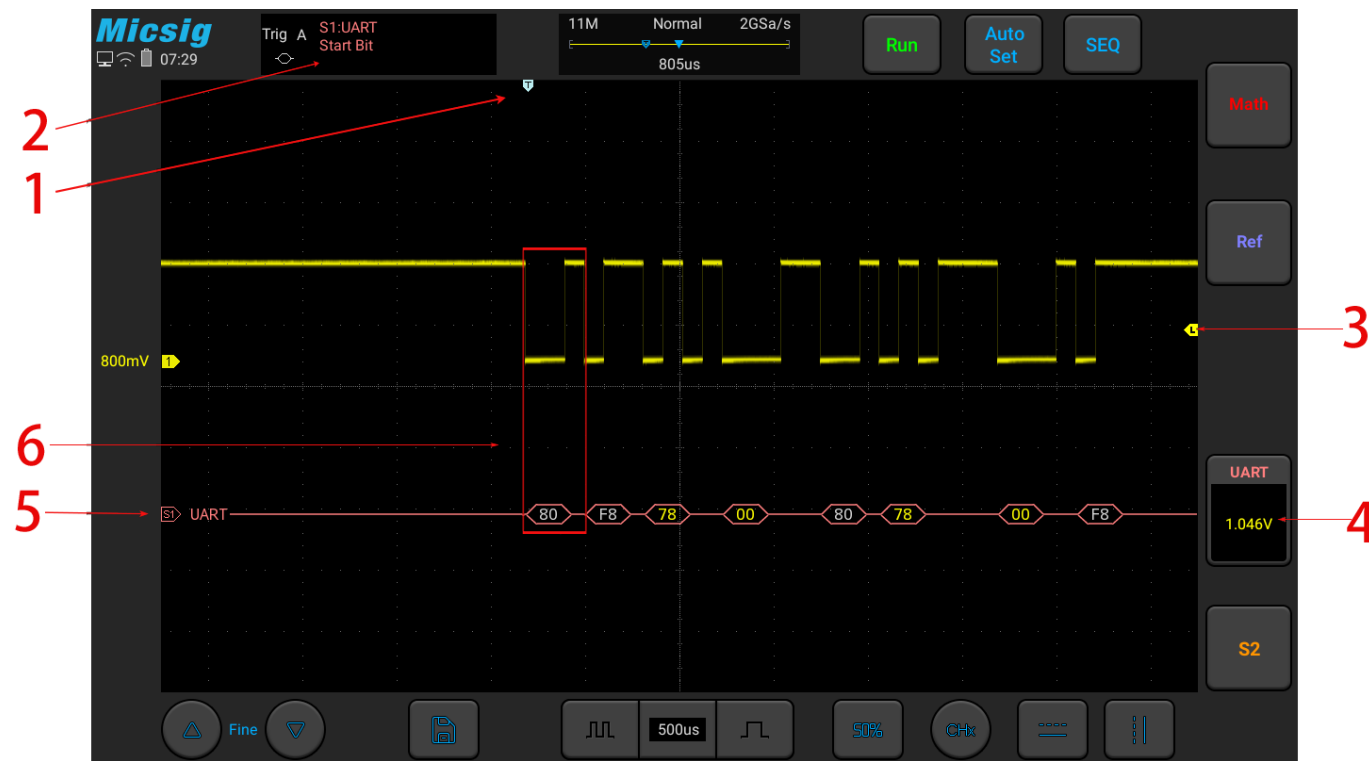

Figure 11-8 UART Graphic Interface
- (1) Tap S1 to open the decode channel, and click S1 again to open the bus configuration menu;
- (2) Select the bus type as “UART”, click “Ch1”, “Idle High”, “Parity None”, “8bit”, “19.20kb/s”, display “hexadecimal”, then close menu;
- (3) Open the trigger mode setting menu, click “Data”, enter 55 manually, and press “enter” to confirm;
- (4) Adjusting the threshold level according to the amplitude level of signal may make the signal to be stably triggered. The UART trigger graphic interface is shown in Figure 11-8: